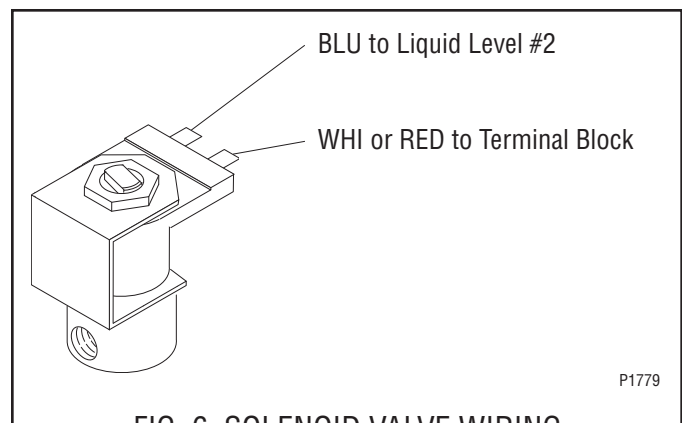

FIG. 6 SOLENOID VALVE WIRING
10. Reconnect the wires, FIG. 6.